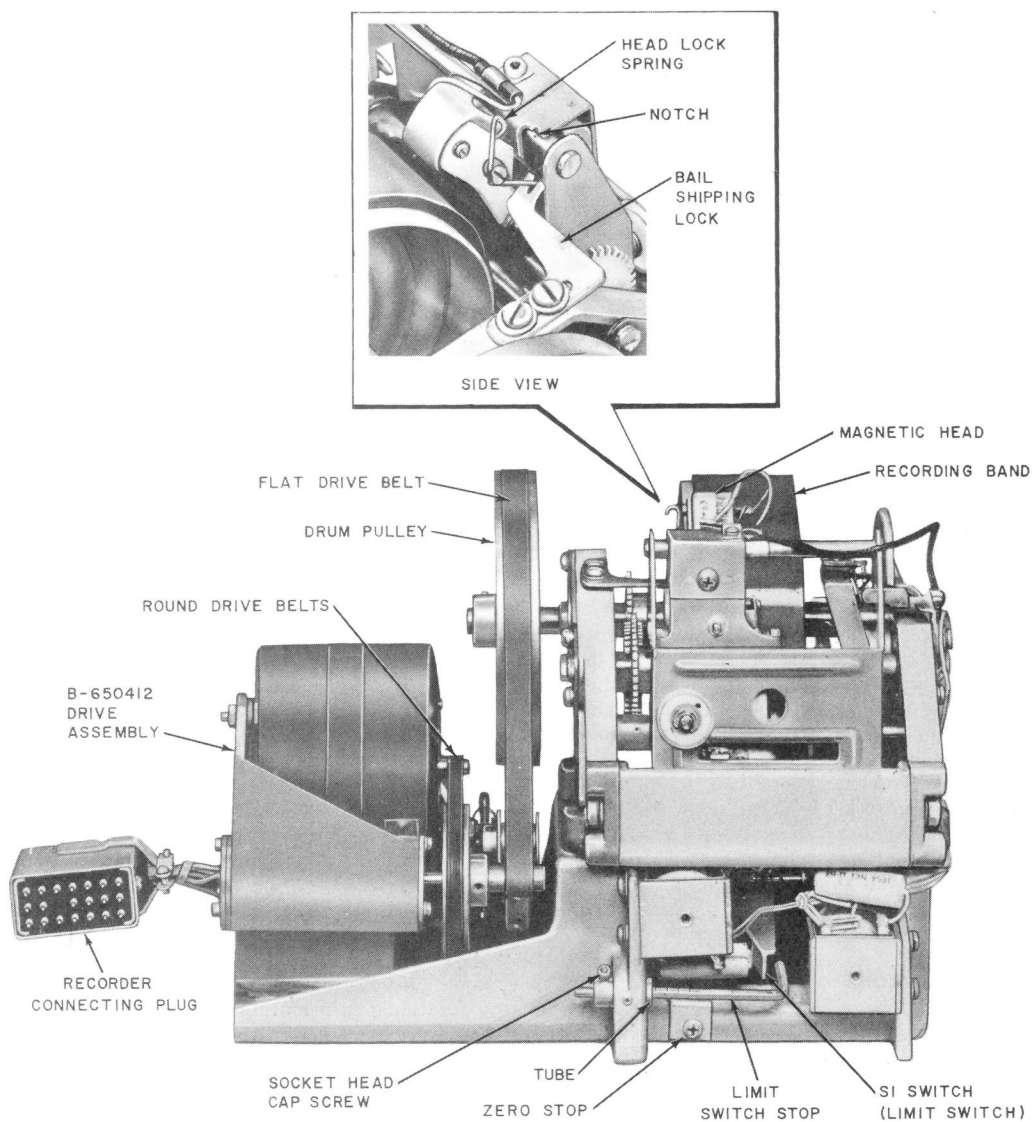

Fig. 7—KS-16765, List 3 Recorder
2.14 To release bail shipping lock (Fig. 7):
2.15 To remove head lock spring (Fig. 7):
2.16 Announcement length adjustment: The announcement set is shipped with the announcement length adjusted for 30 seconds, however this adjustment may be set for any interval up to the maximum capacity by adjustment of the limit switch stop (Fig. 7). The seven marks on the limit switch stop may be used as guides for setting the maximum announcement recording interval.
- (1) Loosen socket head cap screw (Fig. 7).
- (2) Position limit-switch stop to desired setting; flush with left side of tube.
- (3) Tighten socket head cap screw.